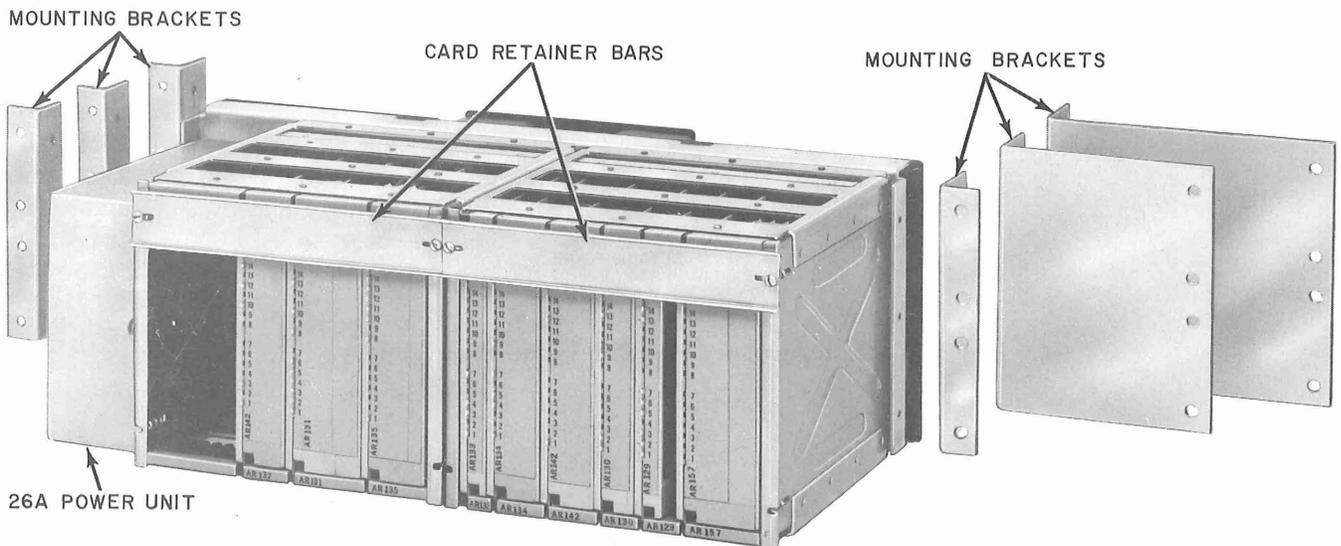

Fig. 4—Data Set 303-Type—Front View
2.06 The chassis of DS 303 (Fig. 4 and 5) with its mounting bracket attached is fastened to the mounting strips located on the side of the cabinet by four or eight bolts. They screw into prethreaded holes with a minimum of two on each side directly above the power panel. When viewing the station from the front, the 26A power unit is to be located on the left side. When DS 303-type is mounted together with a T1WM-4 or with a T1WM-4 and T1 carrier LTU in the same cabinet (KS-20018-L7), the T1WM-4 and T1 carrier LTU will be located in the lower portion of the cabinet. Power panel 590B will be replaced by outlet box KS-20598-L1 mounted on the 87T mounting bracket attached to DS 303-type.